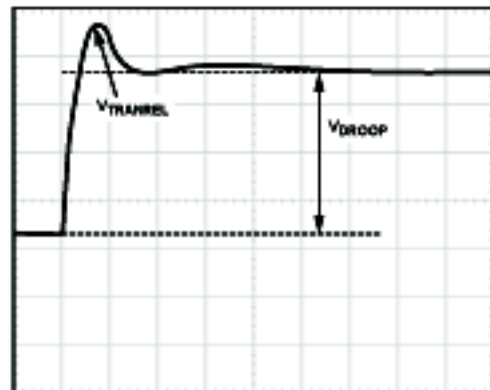

Figure 29. Transient Setting Waveform, Load Release
3. For load release (see Figure 29), if $V_{TRANREL}$ is larger than the value specified by VR11, a greater percentage of output capacitance is needed. Either increase the capacitance directly or decrease the inductor values. (If inductors are changed, however, it will be necessary to redesign the circuit using the information from the spreadsheet and to repeat all tuning guide procedures).